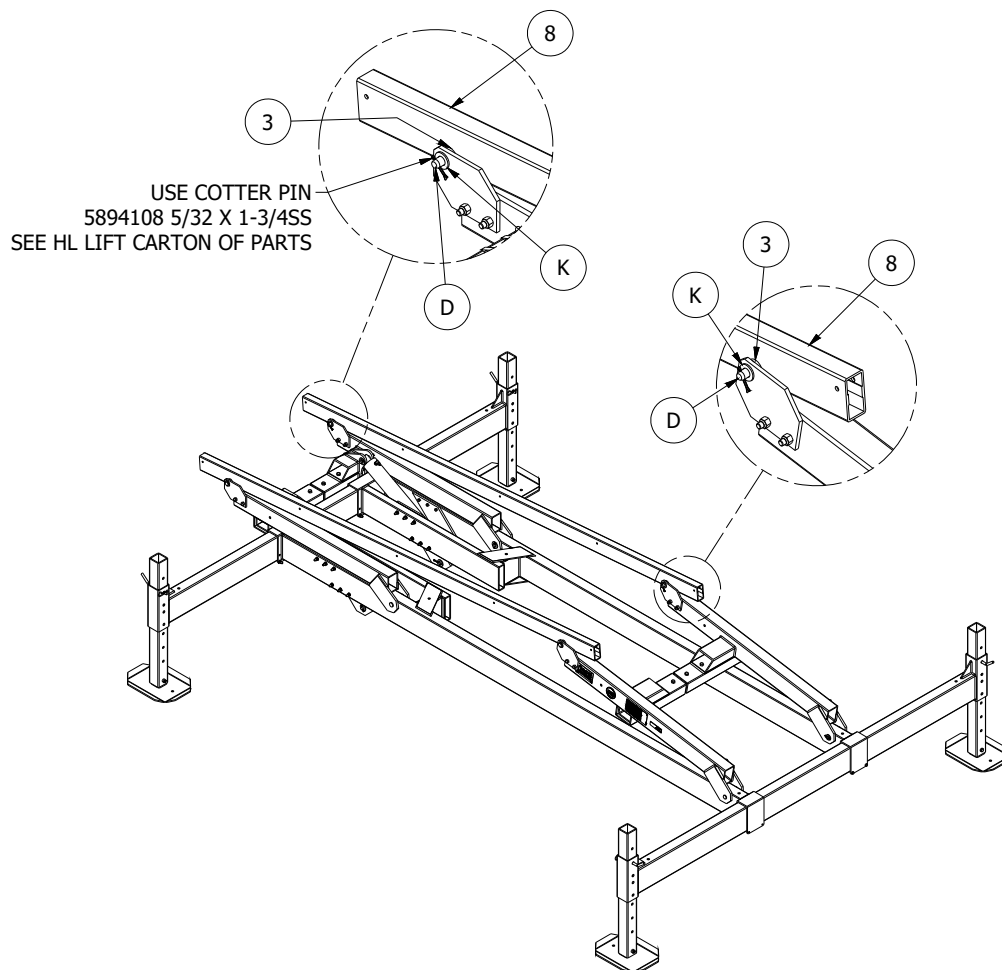

Figure 2-3.
1. **Refer to Figure 2-3.** The following mounting hardware; clevis pins (D), cotter pins, polymer washers(3), and flat washers (K) are all included in the HL Lift Carton of Parts. All other items are included within this kit.
2. Position one P&T Toon main support tube (8), between the front and rear liftarm pivot plates (5). Insert one polymer bunk washer (3), between support tube and each pivot plate (4 total).
4. Place a flat washer (K) on both ends of clevis pin and secure both ends with a cotter pin.